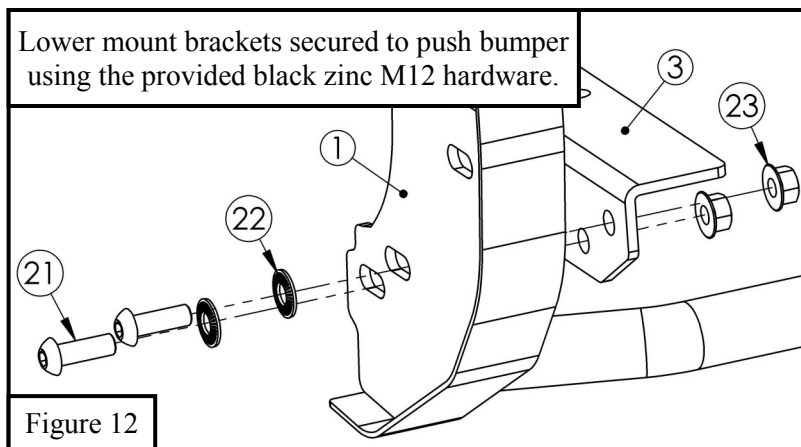

Figure 12
- With assistance align the push bumper assembly onto the previously installed brackets and upper support straps and loosely secure using the provided M12 hardware (Items 21-23). See **Figures 12 and 13**.